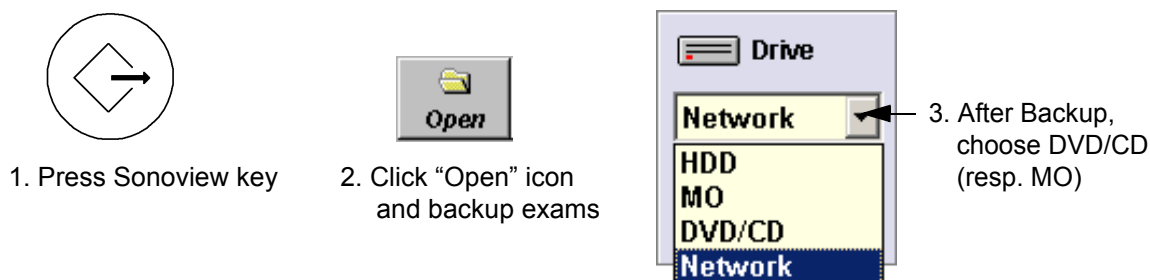

Figure 7-22 To backup exams to DVD/CD+(R)W resp. MO-Disk
- 2.) Enter "Sonoview" by pressing the **SONOVIEW** key on the control panel; see Figure 7-22.